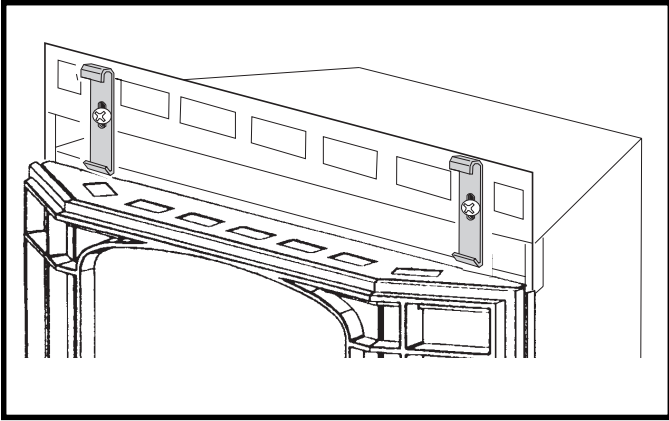

Fig. 37. Hang the Window Grille or the Steel Frame onto the lower tabs of the Hanging Brackets.
- 4) Install the bay window by hanging it onto the lower tabs of the hanging brackets, as per Fig. 37.
- 5) Install the bay window by hanging it onto the lower tabs of the hanging brackets, as per Fig. 37.